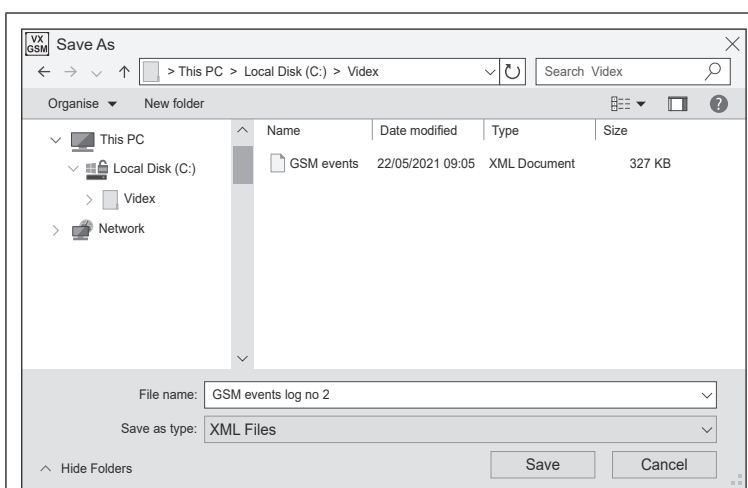

Fig. 72
- The '**Save As**' window will appear, as shown in **Fig.72**, select a location of where to save the event log (the file will be saved as an XML document).